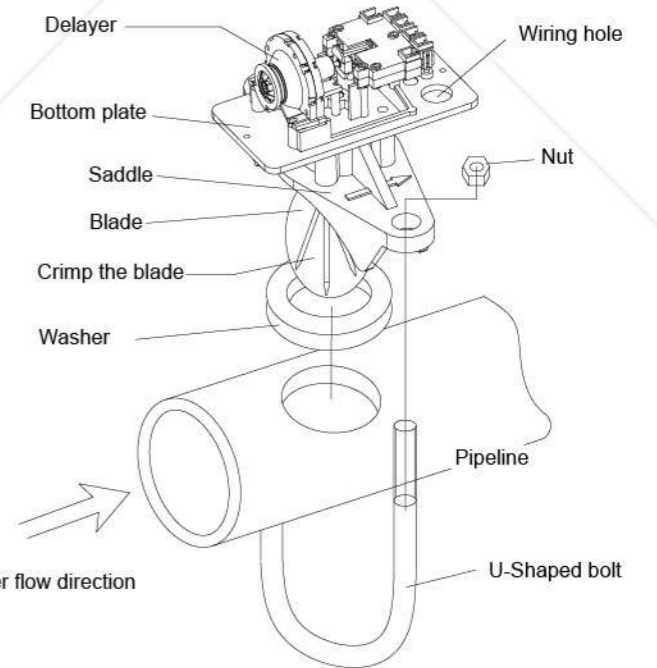

Figure 2 Installation Drawing
- roll up the blade into a small size and put it into the pipeline, install the U-shaped bolt and fasten it up with two fastening nuts, and the specific installation drawing is shown in Figure 2.